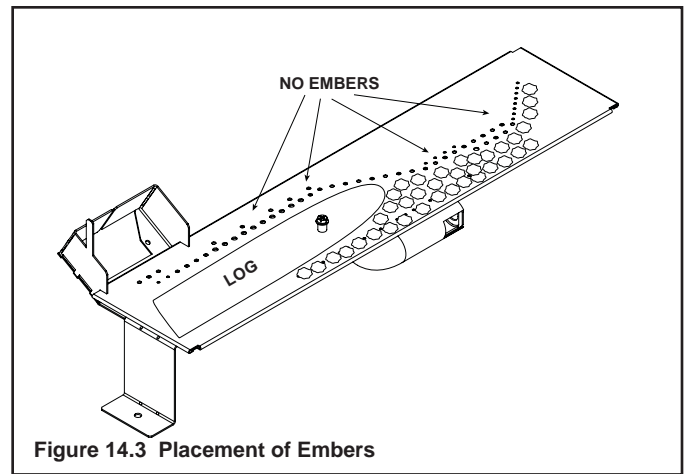

Figure 14.3 Placement of Embers
- When placing Glowing Embers® onto the burner care should be taken so that the ports are not covered. Place the dime-size ember pieces near the port holes in the burner top (see Figure 14.3). Failure to follow this procedure will likely cause lighting and sooting problems.
- Pull the four glass assembly latches out of the groove on the glass frame. Remove glass door from the appliance (see Figure 14.3).